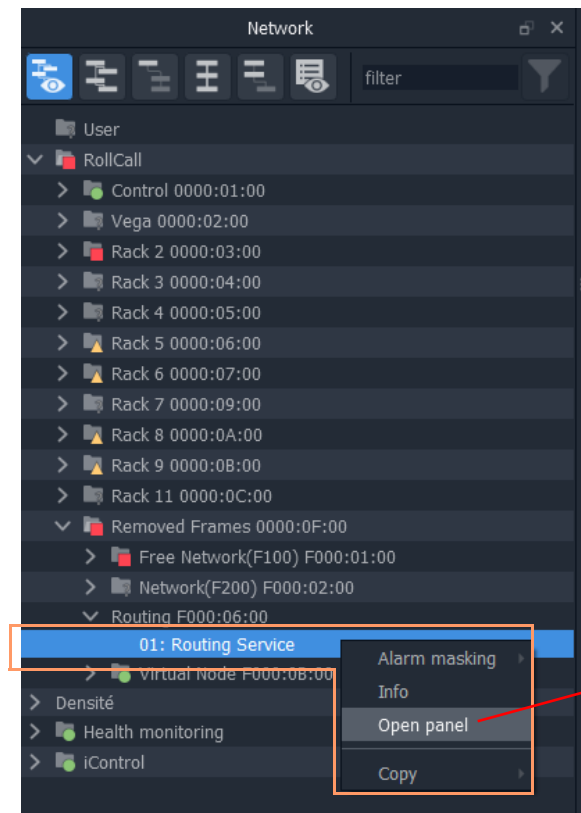

Fig. 11-5: Open a Bulk Routing Panel
- 3 Locate the **Routing** service item in the **Network** window of GV Orbit Client. And right-click on the item and select 'Open Panel'. See Figure 11-5.